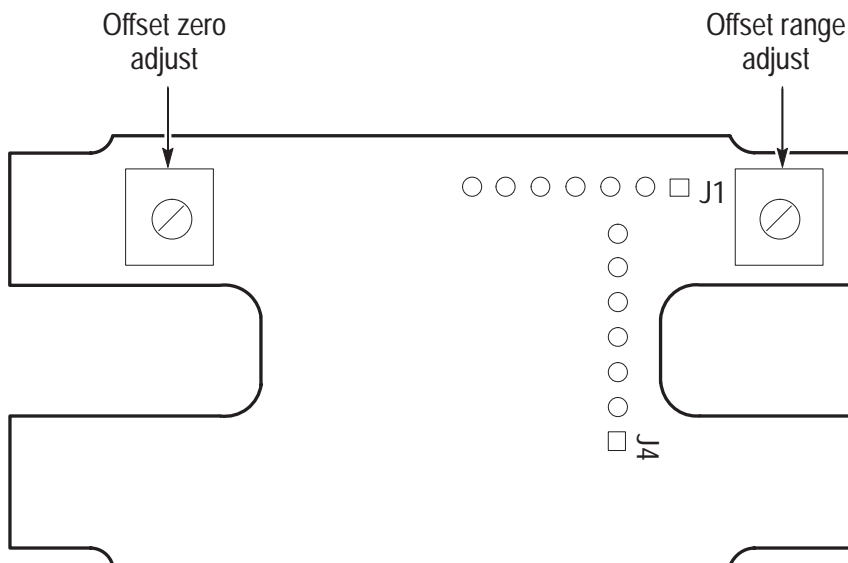

Figure 15: P6249 adjustment locations
Refer to Figure 15 for the location of the offset zero and offset range controls.
6. Adjust **Offset Range** for a DMM reading of $0\text{ V} \pm 5\text{ mV}$. Refer to Figure 15 on page 49 for the location of the offset range adjustment.